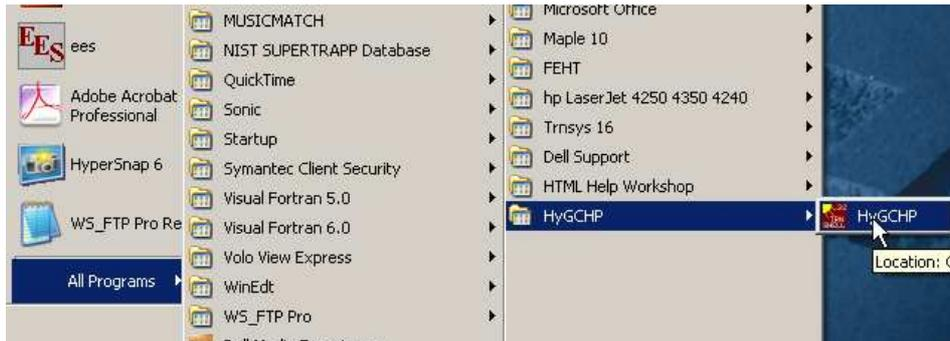
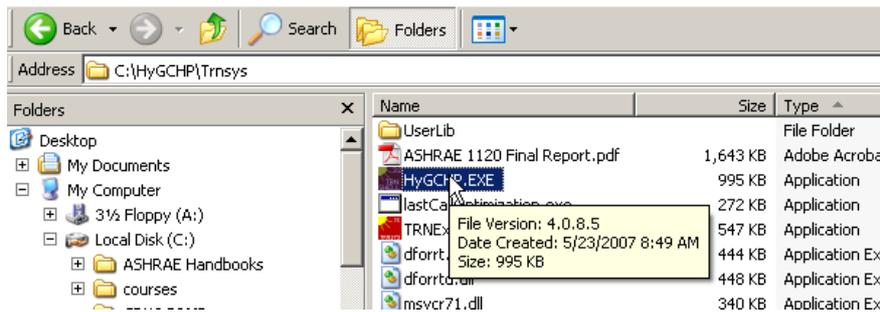

Figure 6. HyGCHP Program in the Start Menu
Figure 7. HyGCHP Application in the C:\HyGCHP\Trnsys folder
- 1.) A program icon entitled HyGCHP should have been added to the list of programs in your Start menu (Figure 6). Select the HyGCHP program to activate the simulation. Alternatively, navigate to the C:\HyGCHP\Trnsys folder on your hard drive and double click the HyGCHP.exe application (Figure 7).